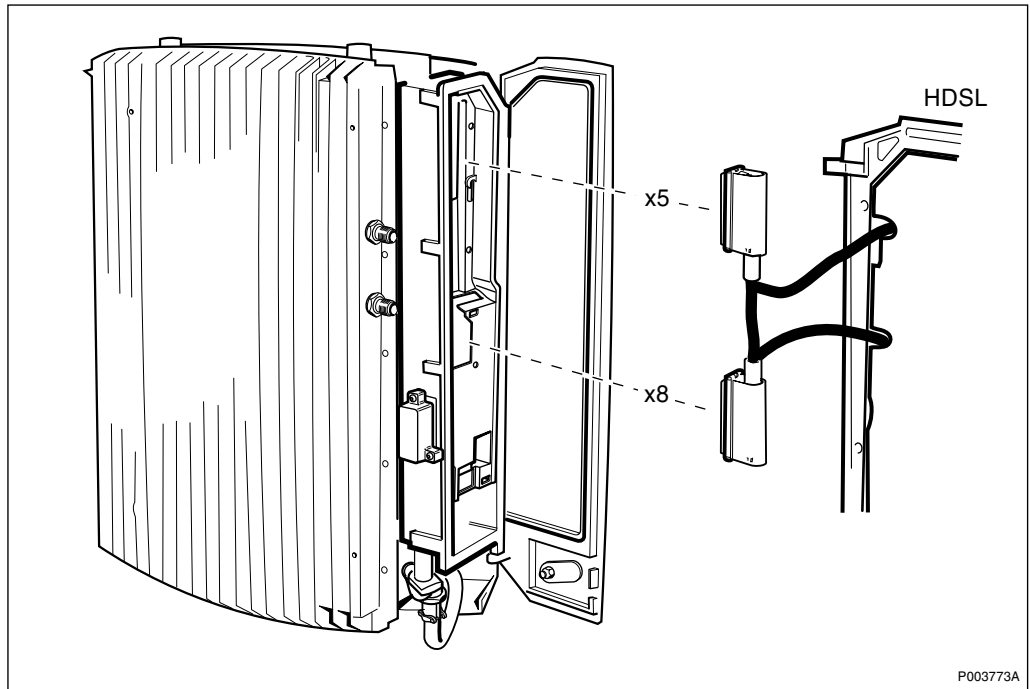

Figure 94 Connecting the HDSL modem cables
- Connect the cables from the HDSL door to the respective connector, X5 and X8. See Figure 94 on page 108.